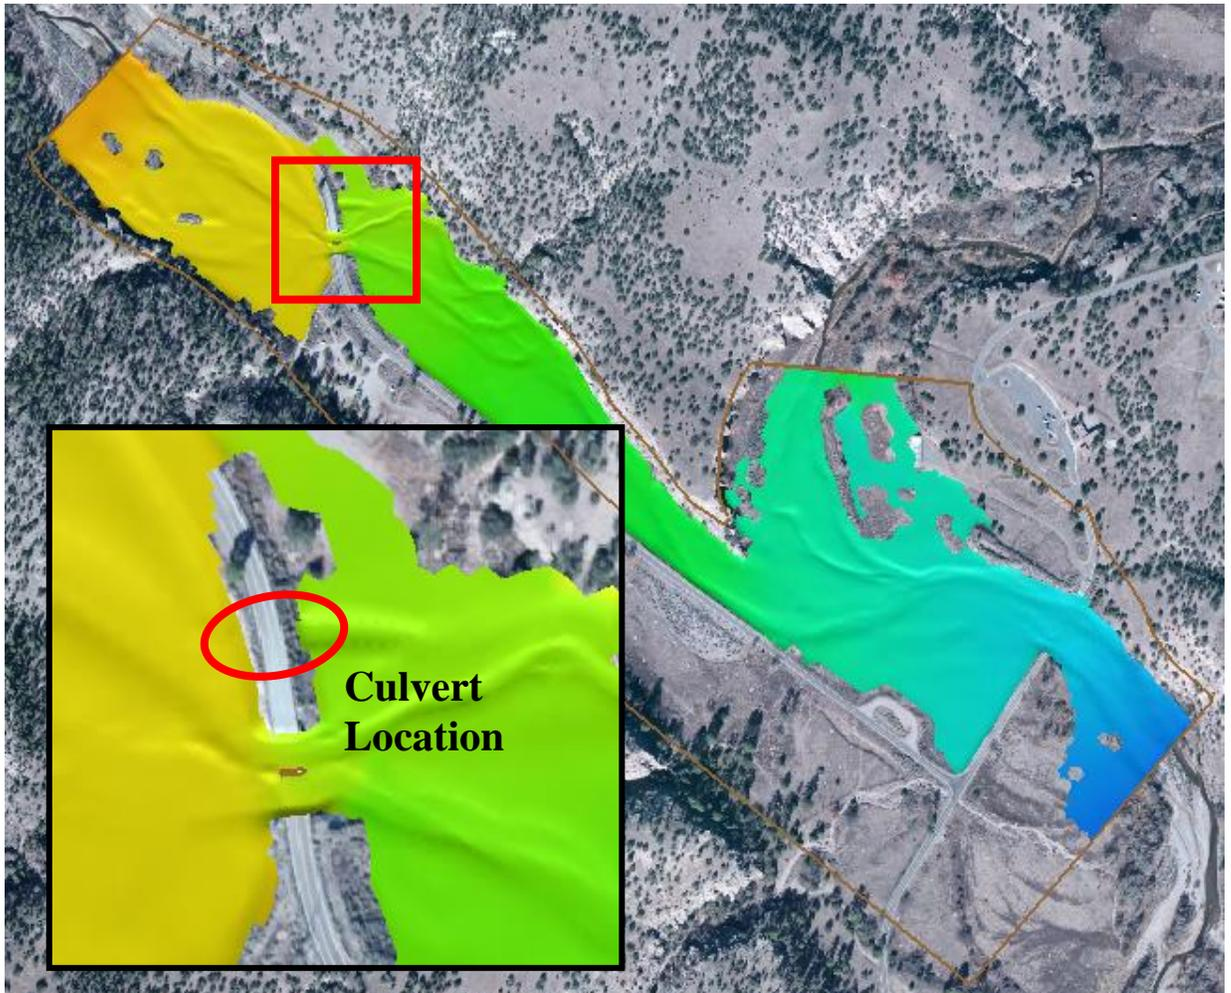

Figure 2 Culvert Location
The culvert structure will be created near the bridge location just upstream of the confluence (location displayed in Figure 2). Culvert structures are defined by creating two arcs, one on the upstream face and one on the downstream face of the structure. The arcs are then defined as a culvert structure and the attributes of the culvert are defined in the culvert definition dialog.
1. Use the **Zoom**  tool to zoom into the culvert location near the bridge. (Figure 2)